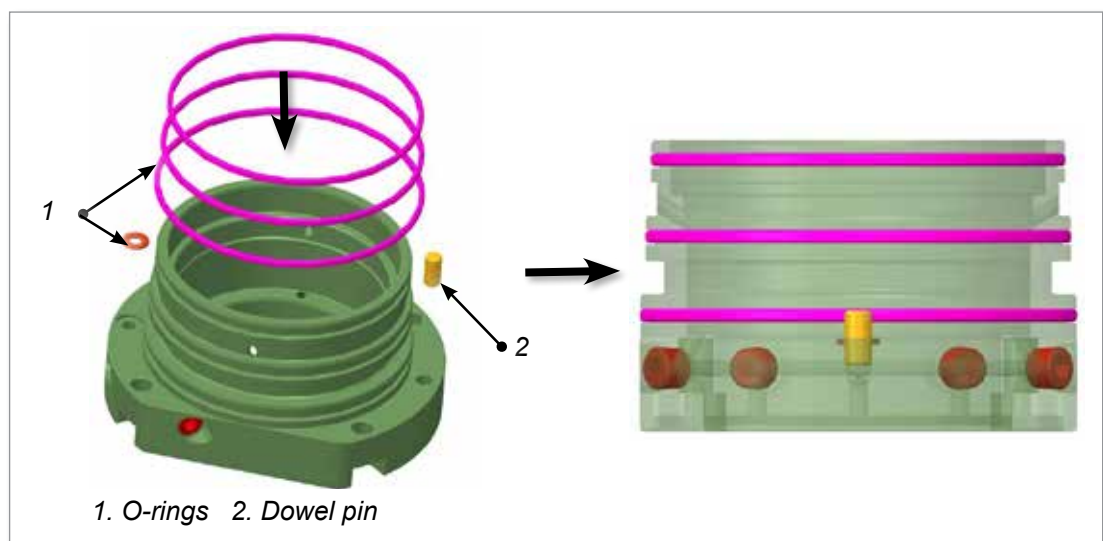

Figure 11-19 Install O-rings and dowel pin
18. As shown in the General Assembly drawing, install the O-rings into the grooves on the outer body. Carefully push the O-rings into the grooves using your finger. Ensure the O-rings are firmly seated in the groove. See Figure 11-19.
19. Install the dowel pin onto the outer body. See Figure 11-19.